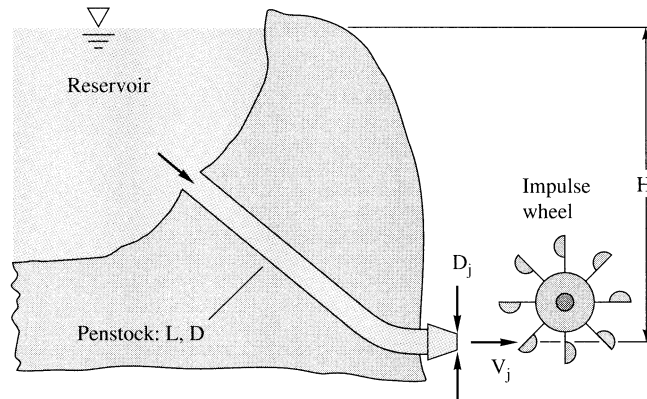

Fig. P11.95
**11.95** One can make a theoretical estimate of the proper diameter for a penstock in an impulse turbine installation, as in Fig. P11.95. Let  $L$  and  $H$  be known, and let the turbine performance be idealized by Eqs. (11.38) and (11.39). Account for friction loss  $h_f$  in the penstock, but neglect minor losses. Show that (a) the maximum power is generated when  $h_f = H/3$ , (b) the optimum jet velocity is  $(4gH/3)^{1/2}$ , and (c) the best nozzle diameter is  $D_j = [D^5/(2fL)]^{1/4}$ , where  $f$  is the pipe-friction factor.